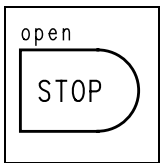

Fig.3
- Press STOP button **D** briefly. **Fig.3**